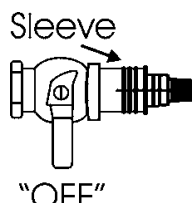

Fig. 5-16
- Insert the plug and release the sleeve. (Fig. 5-16)
- Push plug until the sleeve snaps forward, locking the plug into the socket. (Fig. 5-16)